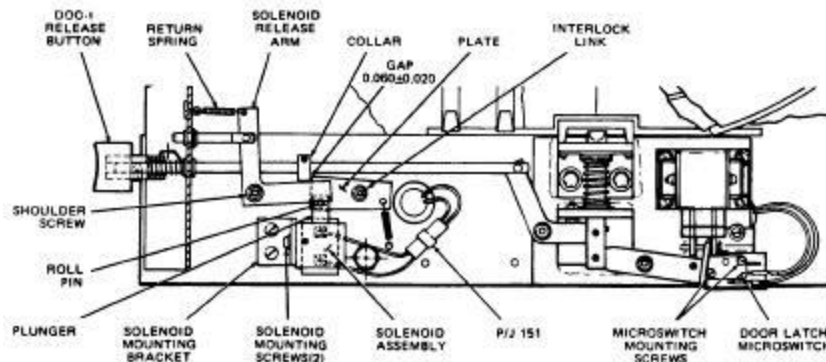

Figure 11-26. Door Solenoid
- a. Unplug the solenoid Molex connector P/J 151, Figure 11-26.